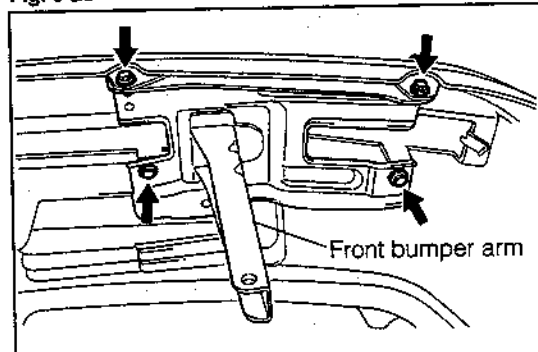

Fig. 9-27
2. Install the front bumper arm subassembly to the front bumper subassembly. (See Fig. 9-27.)